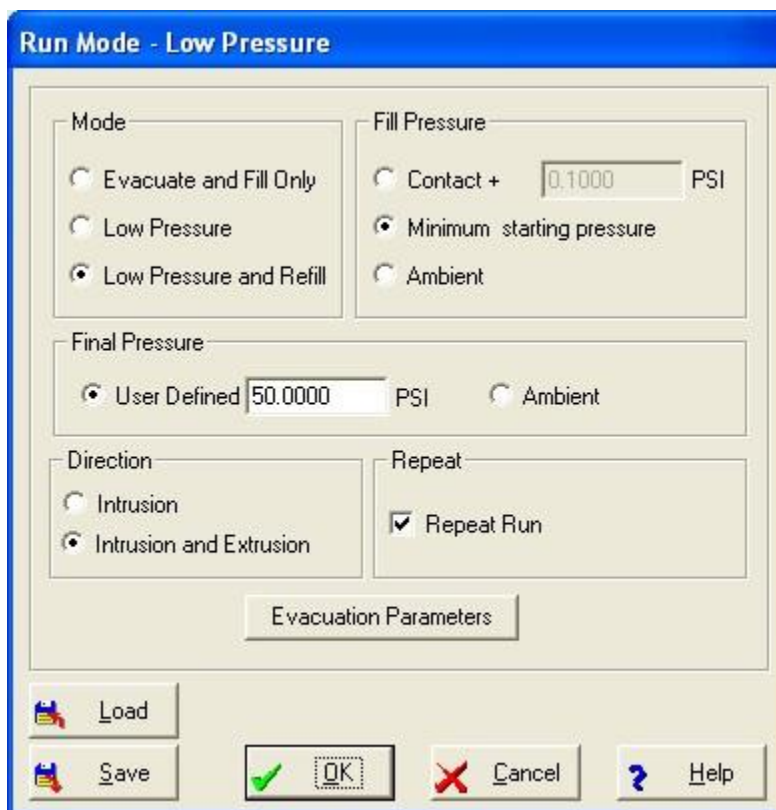

Figure 17. Low pressure run mode dialog box
- To alter the low pressure operation, click **Run Mode** on the **Data Acquisition** dialog box. The **Run Mode** dialog box will be displayed as shown in Figure 17.